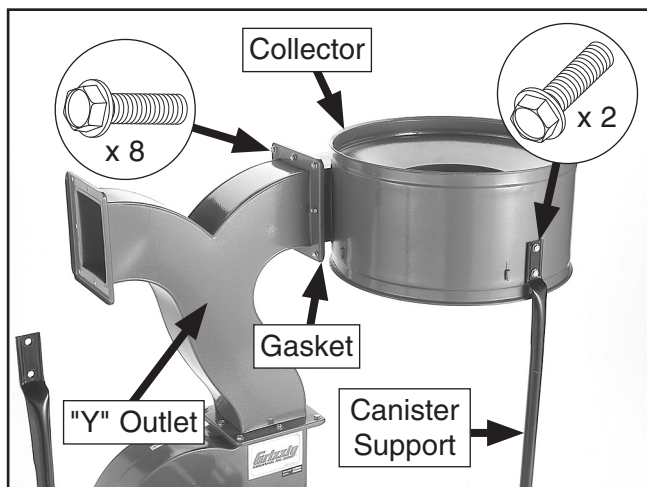

Figure 13. Collector installed.
7. With assistance, place one of the rubber gaskets around the rim of the intake on one of the collector rings, then secure the collector ring to the metal "Y" outlet with (8) $\frac{5}{16}$ "-18 x $\frac{1}{2}$ " flange bolts (**Figure 13**).
8. Attach the top of the canister support to the collector with (2) $\frac{5}{16}$ "-18 x $\frac{1}{2}$ " flange screws, as shown in **Figure 13**.